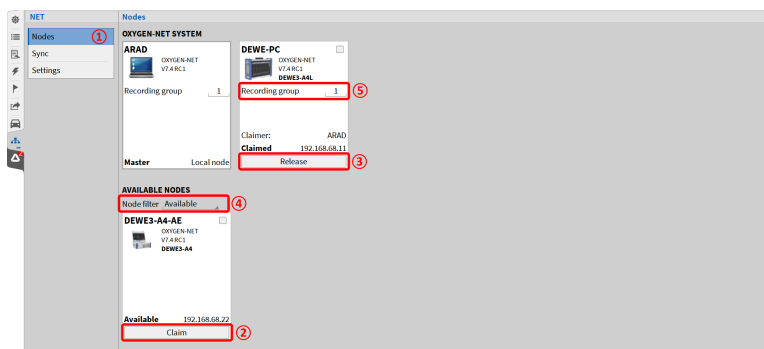

Fig. 15.9: OXYGEN-NET menu – Nodes
The *Nodes* menu (see ① Fig. 15.9) provides an overview of all measurement devices connected to the same Ethernet network. The section *AVAILABLE NODES* displays all available devices, while the section *OXYGEN-NET SYSTEM* shows all Slave Units connected to this Master Unit.
multiple devices via the tick box and click any *Claim button* (see ② in Fig. 15.9). Once claimed these devices are regarded as Slave Units.
Claimed devices can be released from the OXYGEN-NET system by clicking on the respective *Release button* (see ③ in Fig. 15.9). After releasing the measurement device, it can be used as a standalone device again or connected to another OXYGEN-NET system.
The Node filter (see ④ in Fig. 15.9) allows users to sort available measurement devices based on their status:
The Recording Group input field (see ⑤ in Fig. 15.9) allows users to set a Recording Group ID. All devices with the same ID form a Recording Group, which shares all recording commands (start, pause, stop). This enables actions such as starting a recording on one Master Unit and stopping it on another.